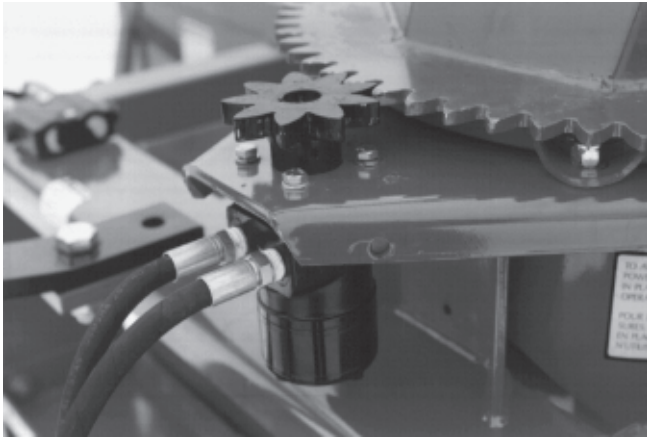

Figure 23
- 2) Install motor and 9 tooth gear (Fig. 23).